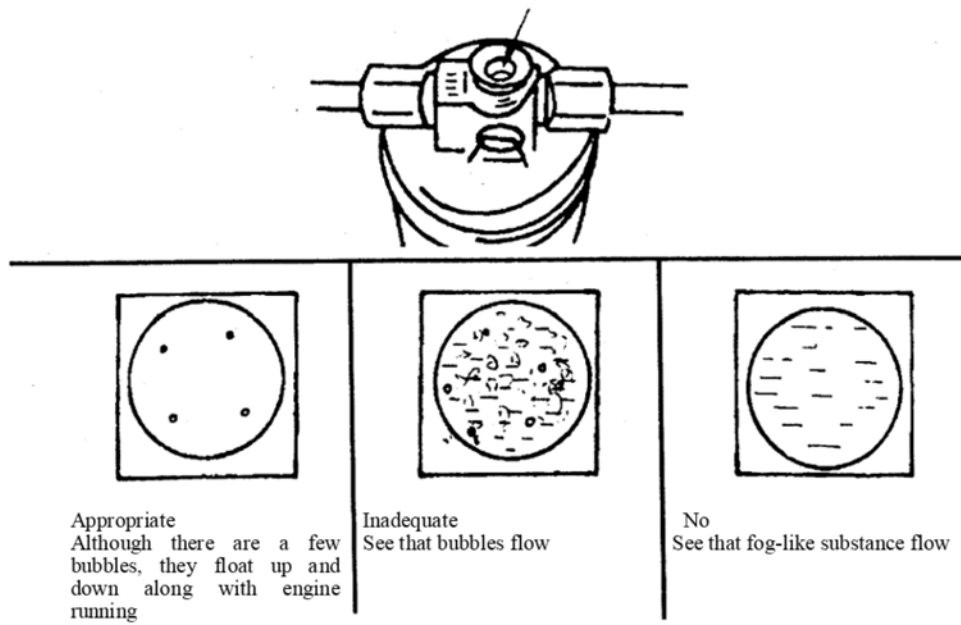

Fig. 5.2-12 Observing refrigerant amount through sight glass of stock solution dryer
- (1) Handling detection: suction tube of compressor makes hand feel cool, while the discharge tube makes hand feel hot, there is an obvious temperature difference between the two tubes.
- (2) Observe through sight glass of stock solution dryer, see Fig. 5.2-12. Hand touches the suction tube and discharge tube can feel the temperature uniform.
- (3) Hand touch to compare the temperature of inflow and outflow tubes of condenser: inflow tube temperature should be higher than outflow tube. Cool air outlet has cool feel. Expansion valve front and back should have obvious temperature difference, that is hot in front and cold in back.
- (4) Handling detection: The temperature from condenser outflow tube to the high pressure pipe line and parts in front of expansion valve should be uniform. The pipe line from expansion outlet to compressor suction inlet has the feeling of icing hand but not frosting, although frosting, it will thaw, small globule after frost thaw can be seen.